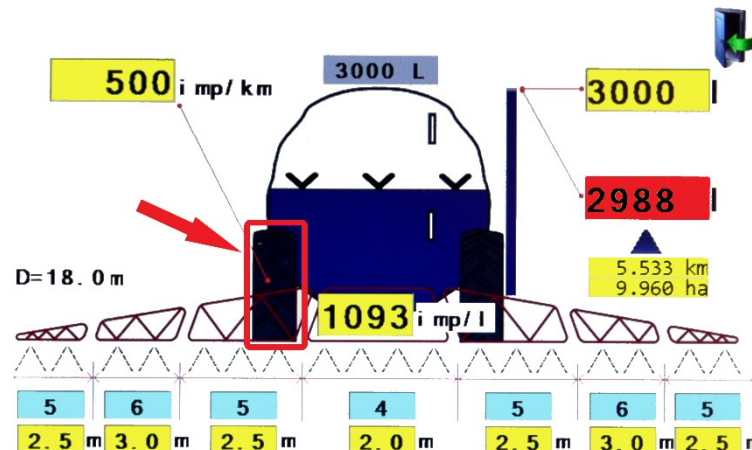

Figure 17
- Manual correction of the SC can also be executed by pressing the left wheel of the schematic display of the sprayer (Figure 17)